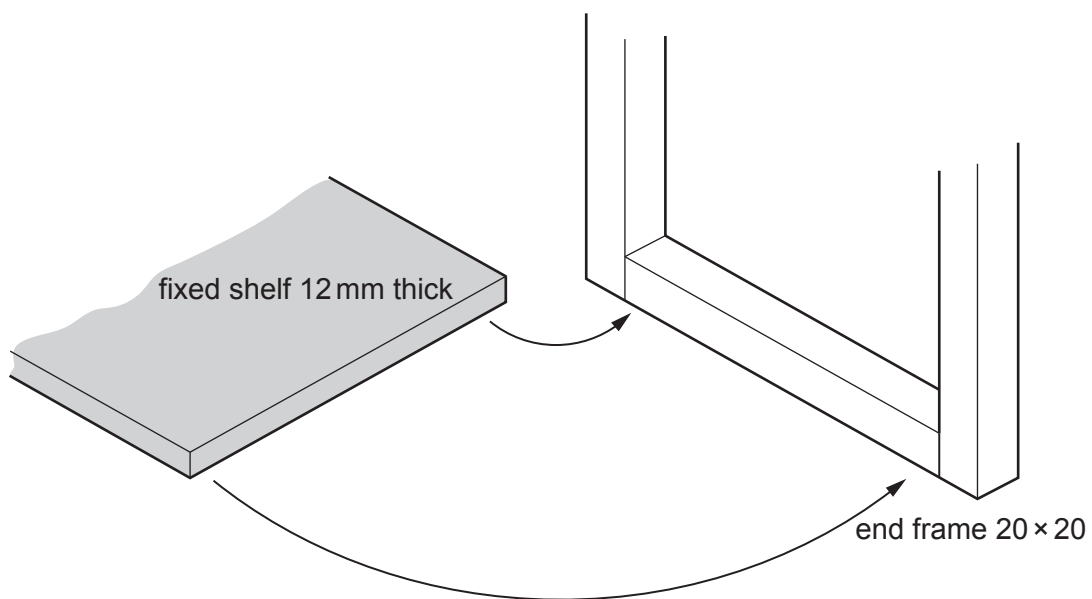

Fig. 13.3
- (d) Fig. 13.3 shows one end of a fixed shelf and part of an end frame.
Complete Fig. 13.3 to show a joint that could be used to join the fixed shelf to the end frame.